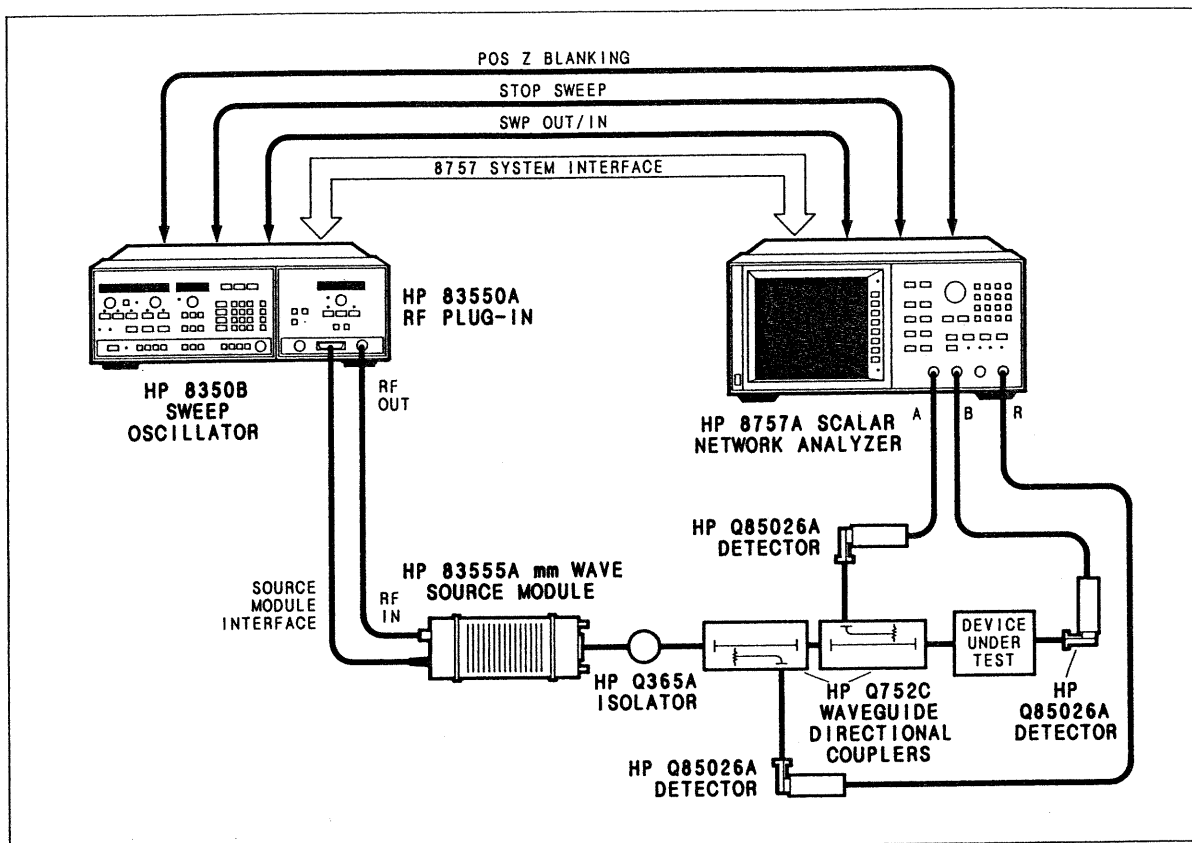

Figure 2-2. HP Q85026A/8757A Typical Measurement Configuration
For the majority of measurements, AC detection is the preferred method. It offers greater sensitivity and immunity to noise and drift with time and temperature. AC detection amplitude measurements require a modulated test signal. Modulation is provided via an internally modulated source (e.g. the HP 8350B), or from the HP 8757A rear panel modulator drive. Test set connections depend on the source; Figure 2-2 illustrates a typical measurement.
1. Connect the equipment as shown in Figure 2-2.